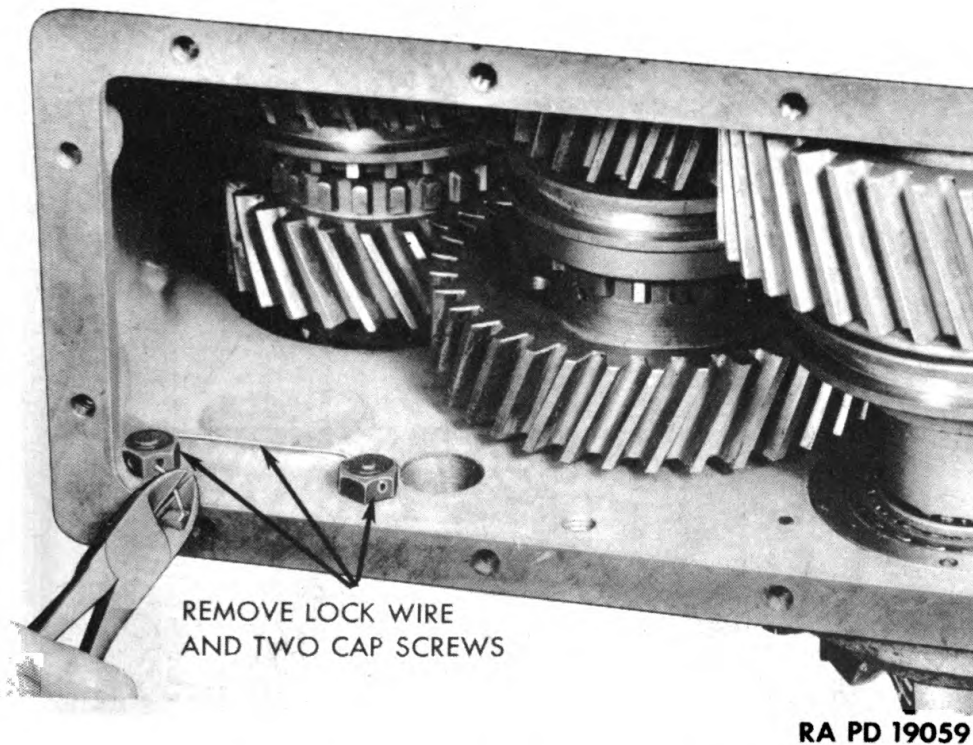

Figure 137 — Removing Inside Screws Lock Wire
(1) **REMOVE OUTSIDE AND INSIDE CAP SCREWS.** Remove 3 cap screws from left side of transmission and transfer case and remove 4 cap screws from right side (fig. 135). Place transmission and transfer case on end on clutch housing. Support assembly on 2 wood blocks, approximately 5 x 5 x 18 inches. Remove 12 cap screws from bottom cover of transfer case (fig. 136). Remove cover plate and gasket from transfer case. Remove lock wire from 2 cap screws inside transfer case (fig. 137), and remove cap screws from case.